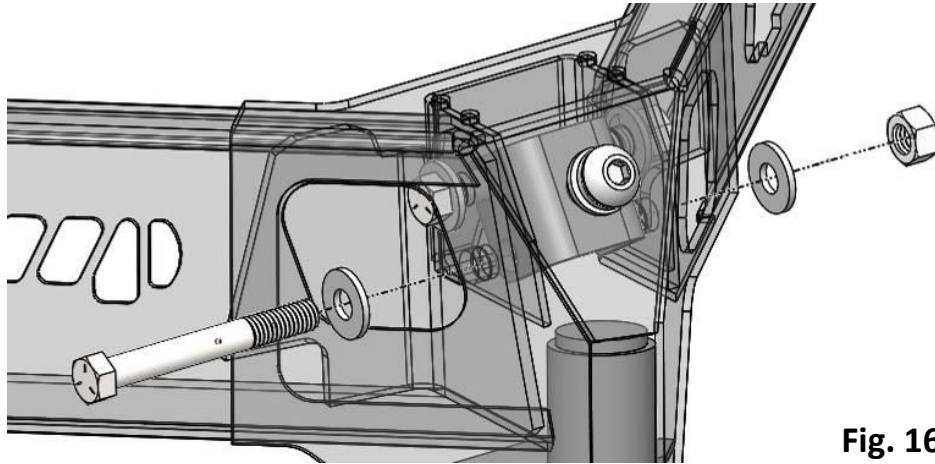

Fig. 16
- b. Once the rear rail is in place re-insert the bolts from the previous step THROUGH the corresponding hole in the end of the rear rail and place a washer then 7/16" lock nut on each bolt. Loosely start the nuts but do not tighten at this time. (Fig. 16)
- c. Now place the two remaining 7/16" x 3.5" bolts, washers, and nuts from the side rail through the empty cross holes at the top of each leg in the same manner as above. (Fig. 16)